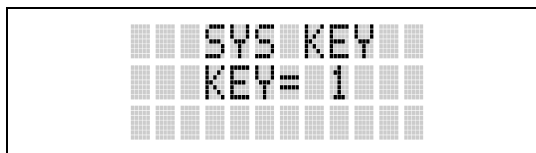
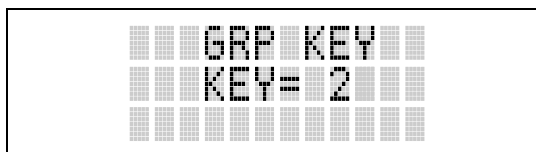

Figure 11-11: System Encryption Key Display
Figure 11-12: Group/Channel Encryption Key Display
- Use the  or  button to toggle between displaying the system key (Figure 11-11) or the group/channel key (Figure 11-12).